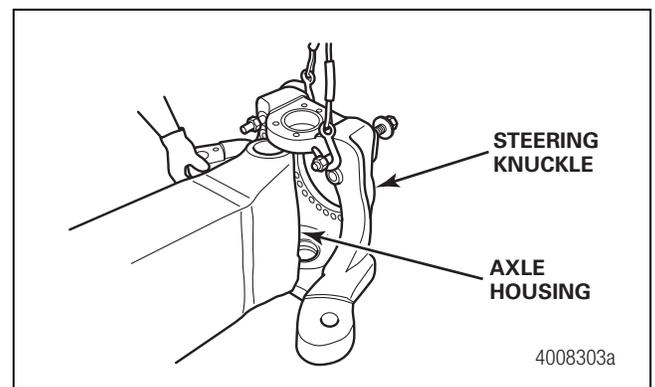

Figure 3.13
8. Use a lifting device to remove the knuckle from axle housing. Figure 3.13.